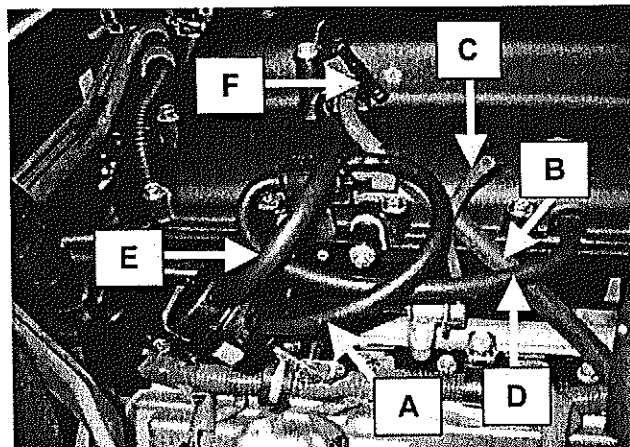

Figure 40
32. Connect the bypass actuator hose. It should be attached to the lower port of the boost actuator and the front (plastic) nipple on the solenoid (Arrow A, Figure 40).
33. Connect the factory power steering idle-up hose to the hose nipple on the supercharger plenum (Arrow B, Figure 40).
34. Connect the fuel pressure regulator hose to the regulator only at this time (Arrow C, Figure 40).
35. Connect the hose from the rear port of the actuator solenoid to the brass fitting on the side of the supercharger (Arrow D, Figure 40).
36. Connect the supplied hose from the upper port of the bypass actuator to the steel hose nipple in the supercharger plenum (Arrow E, Figure 40).
37. Connect the EVAP canister hose to the factory steel line that is secured on the supercharger plenum cover (Arrow F, Figure 40).